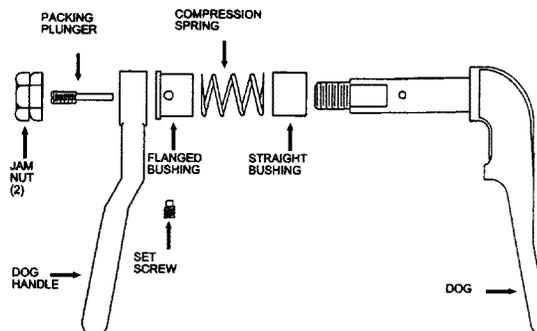
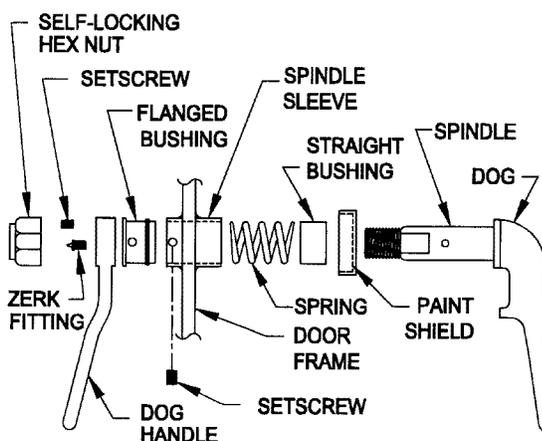

Figure 3-7. Individual Dog Assembly
Figure 3-7A. Individual Dog Assembly Modified by MACHALT 167-31010 (ECO-526)
- Remove the self-locking hex nut (or two jamnuts) and the dog handle from the inside of the door. Remove the dog and paint shield from the outside of the door. See figure 3-7 and figure 3-7A.
3-1.8.3 Individual Dog Installation - Sintered Bronze Bushings with Elisha Technologies EDC 1270 EPL Grease and CRES Paint Shield. (See figure 3-7A.)